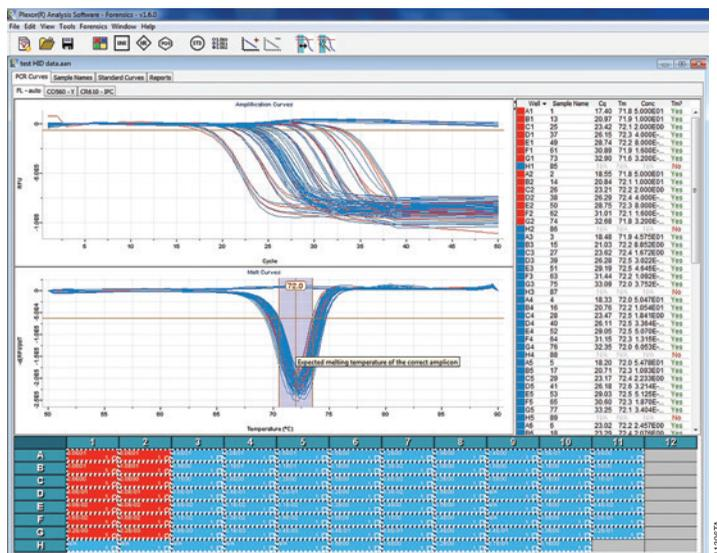

Figure 38. The target melt temperature is displayed in a table to the right of the graph.
2. Select wells containing the DNA standards. The T_m for each selected sample will be displayed in a table to the right of the graph (Figure 38). The expected target melt temperature and associated target melt temperature range for all samples in this dye channel should be set based on the T_m of these standards.